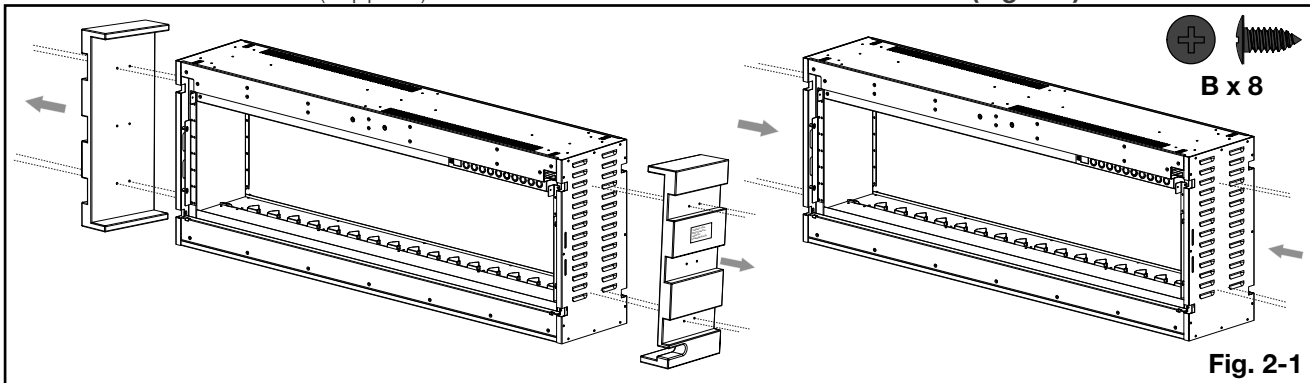

Fig. 2-1
- E. Remove the 2 MDF support ends from the appliance by removing the screws. Discard both MDF boards. Use 4 new screws (supplied) on each side to cover MDF board screw holes (Fig. 2-1).